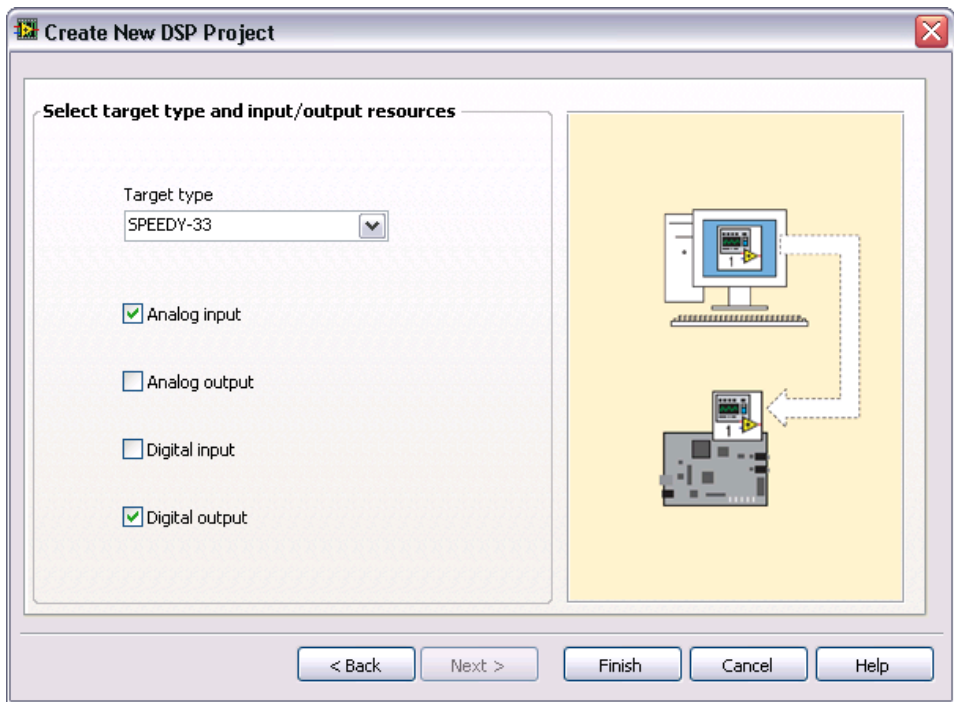

Figure 9. Specifying the DSP Target Hardware and Resources
6. Make sure there is a checkmark in the **Analog Input** and **Digital Output** checkboxes. By default, the wizard adds all the resources available to the target. You can remove the checkmarks from any of the input/output resources checkboxes that you do not need, as shown in Figure 9.